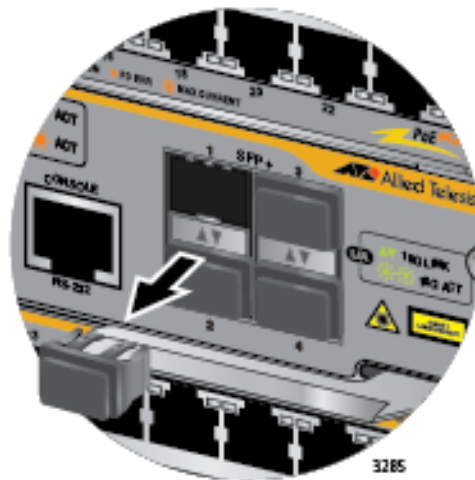

Figure 175. Removing the Dust Cover from an SFP+ Slot on the AT-SBx81CFC960 Controller Fabric Card
1. Remove the dust cover from one of the SFP+ slots on the AT-SBx81CFC960 Controller Fabric Card. Refer to Figure 175.